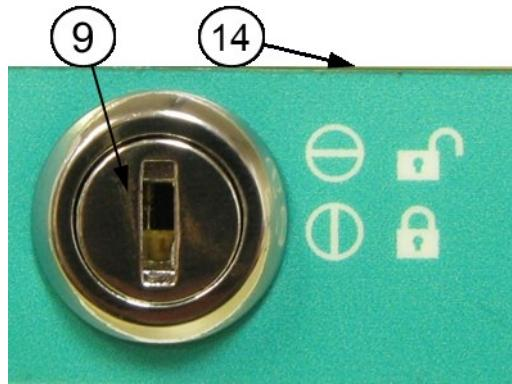

Fig. 91 The key slot set to a vertical position
5. Using Flat-nosed pliers **TB-6** adjust the **PCA lock (9)** to a position with the key slot set to a vertical position (according to the mark printed on the **S300PCA Pump type sticker (14)** for the **Lock closed**) as shown in **Fig. 91**.